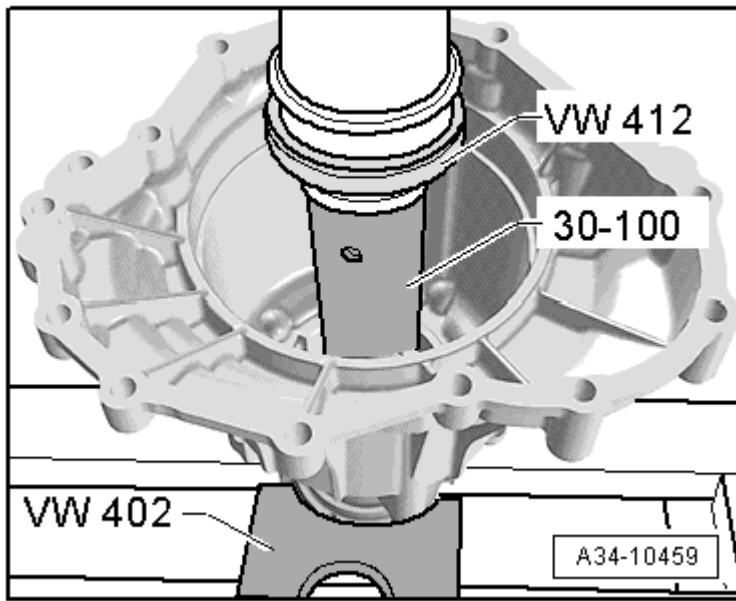

Fig. 53: Installing Flange Shaft
- Installing, refer to **Fig. 53**